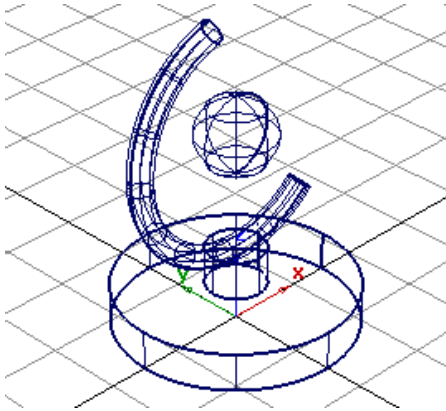

Figure 2-107 Sphere created for the globe
2. Enter **0, 0, 250** in the promptline and press ENTER; a globe is created in the window, as shown in Figure 2-107.